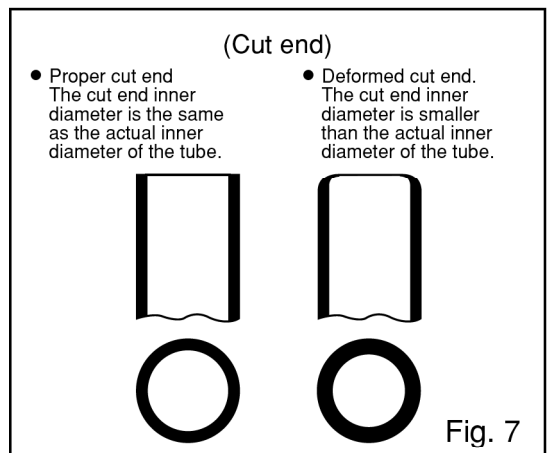

Fig. 7
- If you feed the blade too quickly, the tube may be deformed and the tube cannot be flared properly. (Fig. 7)
- When you use a tube without first cutting it, check that the tube is not deformed. (Fig. 7)